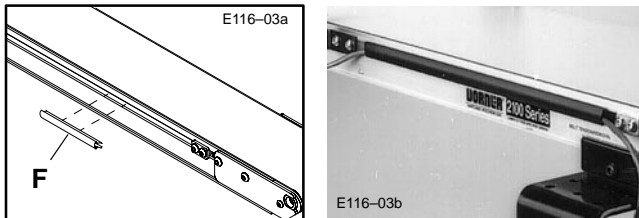

Figure 3: T-slot Cover Strip Mounting Detail
- c. To contain a long run of wiring cable in the conveyor T-slot channel, use several short lengths of T-slot Cover Strips (F) (Figure 3). Or, to completely contain a long run of cable, purchase T-slot Cover Strip (645656P) at length required.